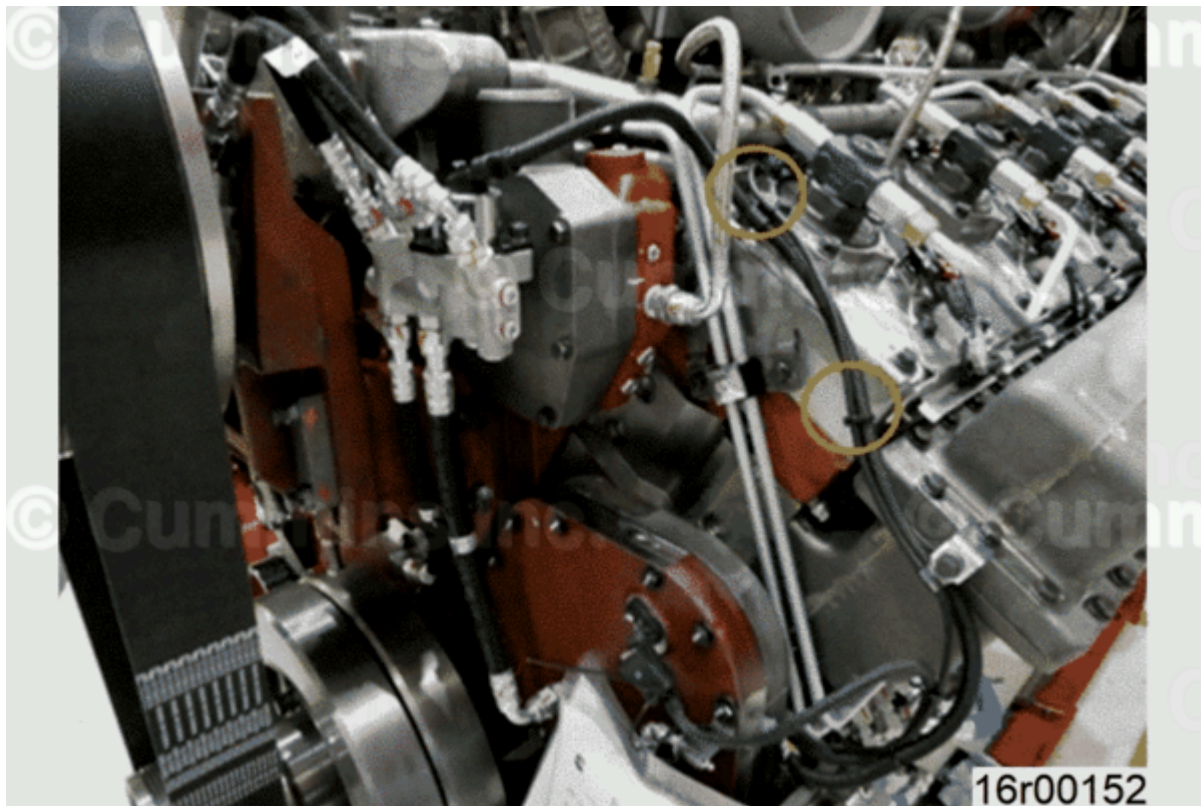

Figure 3, Tier 2 Engine Wiring Harness Routing.
- Remove the solenoid harness from the shared P-clip, holding the solenoid harness and the engine harness, to the rocker cover (circled yellow). Cut the cable tie securing the solenoid harness to the existing engine harness. Figure 3 shows the existing route for Tier 2 engines.